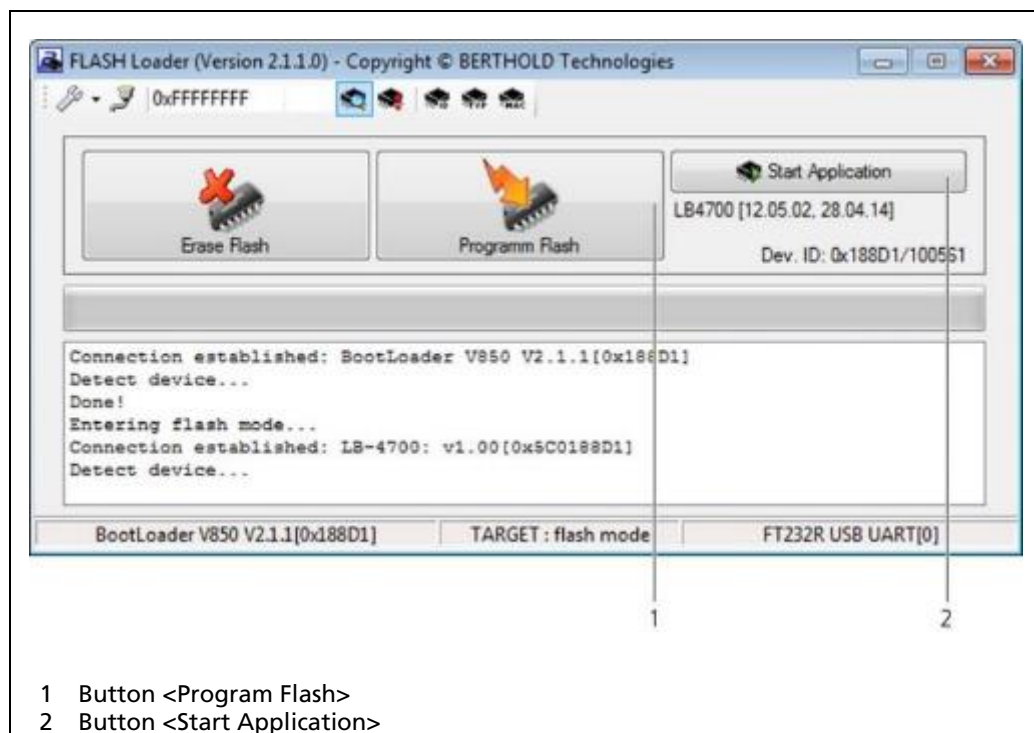

Fig. 53 Flash Loader "Program Flash" Page
12. Click on the button <detect device> (Fig. 53, item1).